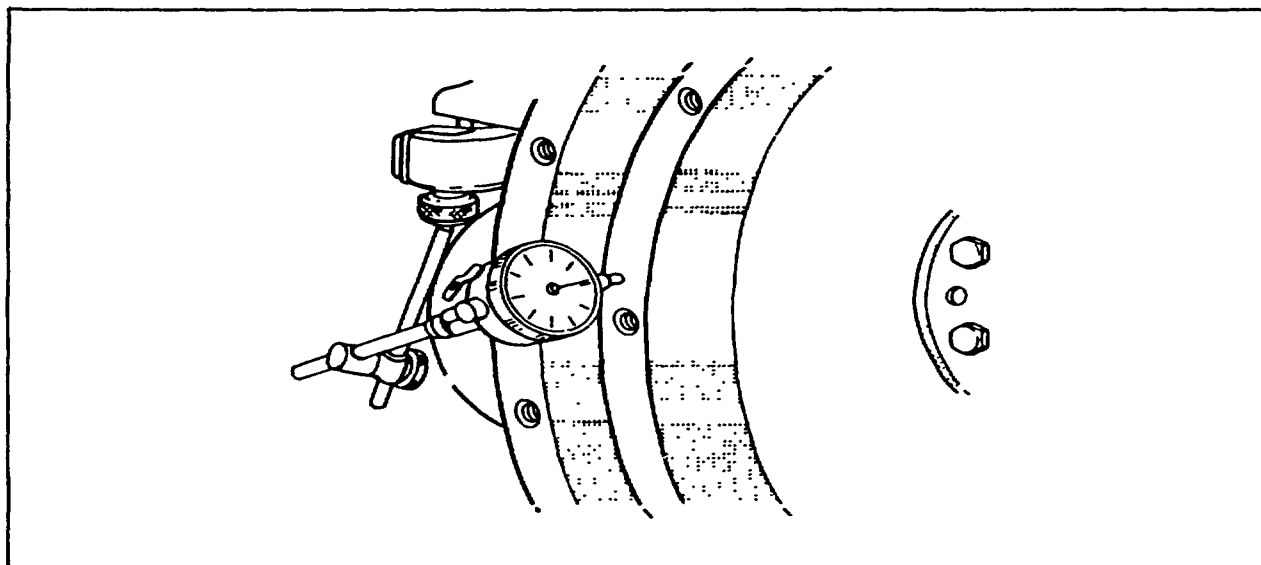

Figure 6-6. Using Dial Indicator To Check Flywheel Runout
4. Assemble dial indicator to flywheel housing to measure flywheel runout. Check torque converter bolt surface and counterbore (inner side wall). Maximum runout must not exceed 0.008 inch. (see figure 6-6).